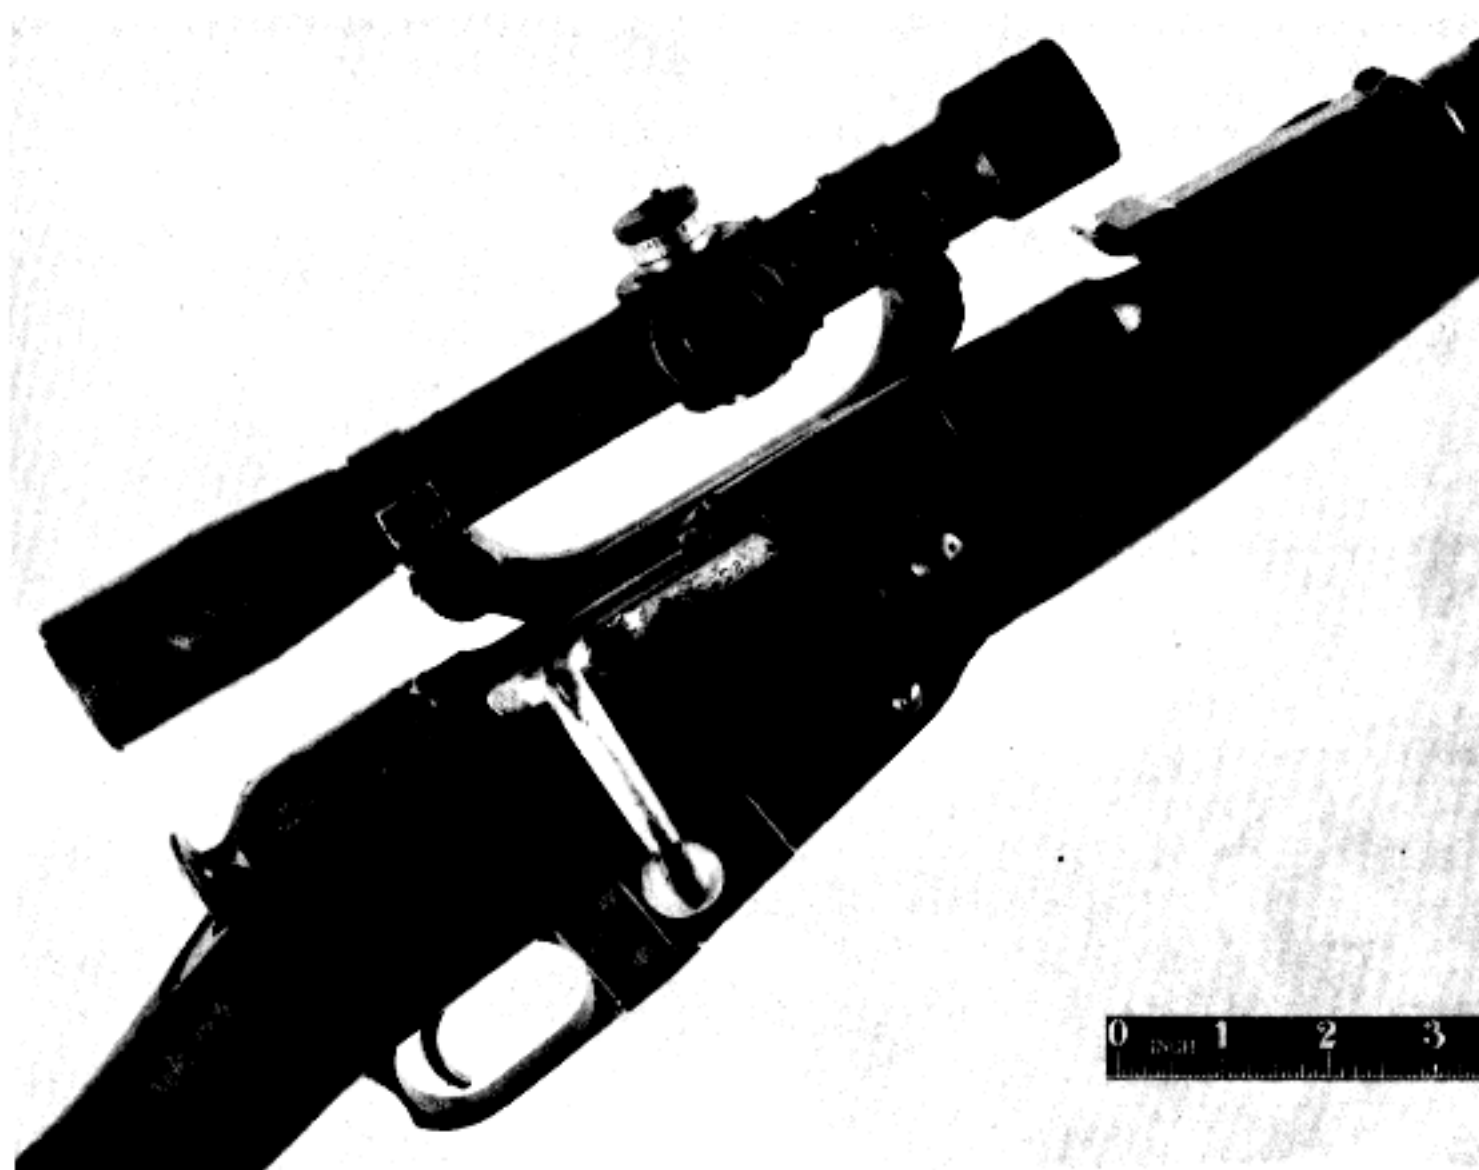

FIGURE 22. SNIPER RIFLE (MODEL OF TELESCOPE AND MOUNT UNKNOWN).
b. The bolt handle has been lengthened and bent down to prevent interference with the telescope (fig. 22).
- (1) The stock of the Dragoon rifle M1891 or rifle M1891/30. (The stock of the rifle M1891 also can be used, but will prevent attaching the bayonet.)
- NOTE: If the PU telescope mount is to be used, these stocks must be cut away so that the mount may rest flush against the receiver. (Use of the unidentified sight mount shown in figure 22 may likewise necessitate cutting away part of the stock.)
- (2) The bayonet of the rifle M1891/30.
NOTE: If the PU telescope mount is to be used, these stocks must be cut away so that the mount may rest flush against the receiver. (Use of the unidentified sight mount shown in figure 22 may likewise necessitate cutting away part of the stock.)